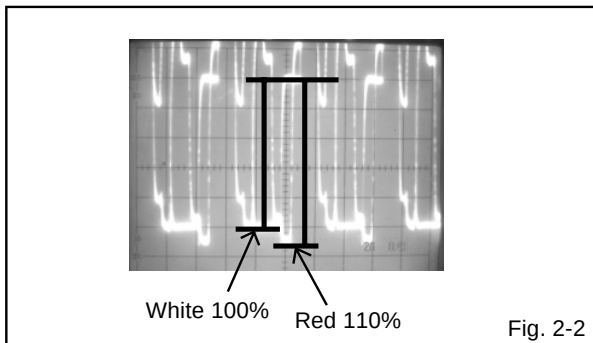

Fig. 2-2
7. Press the VOL. UP/DOWN button on the remote control until the red color level is adjusted to 110 ±10% of the white level. (**Refer to Fig. 2-2**)